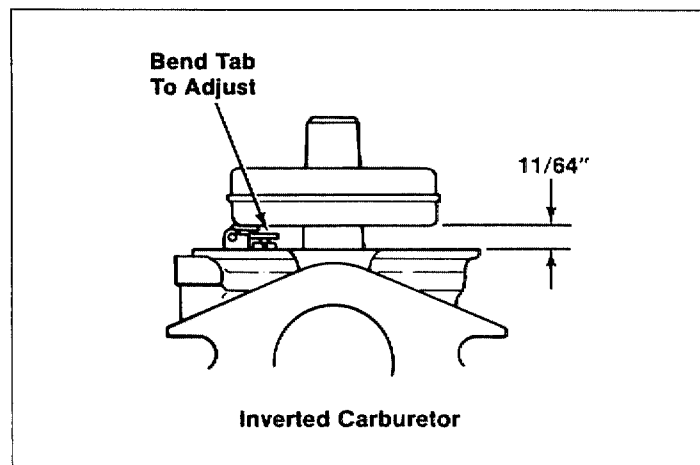

Figure 13. Setting Float Level
3. Set float level: Invert carburetor so the float tab rests on the fuel inlet needle. There should be 11/64" ($\pm 1/32$ ") clearance between the machined surface of body and the free end of float. Bend the float tab with a small screwdriver to adjust. Refer to Figure 13.